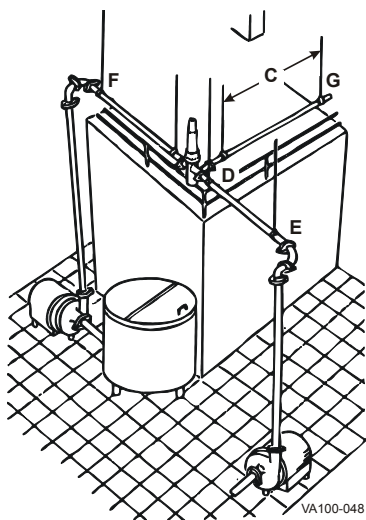

Figure 2: Pipeline Support
1. Install supports at least every 10 feet (3 meters) on straight runs of piping (Figure 2, item C).
2. Install supports on both sides of the valves as close as possible to the connections (Figure 2, item D).
3. Install supports at each change of pipeline direction (Figure 2, item E and F).
4. For pipelines passing through walls, floors or ceilings, provide at least 1 inch (25 mm) of clearance around the pipe to allow for expansion and contraction (Figure 2, item G).